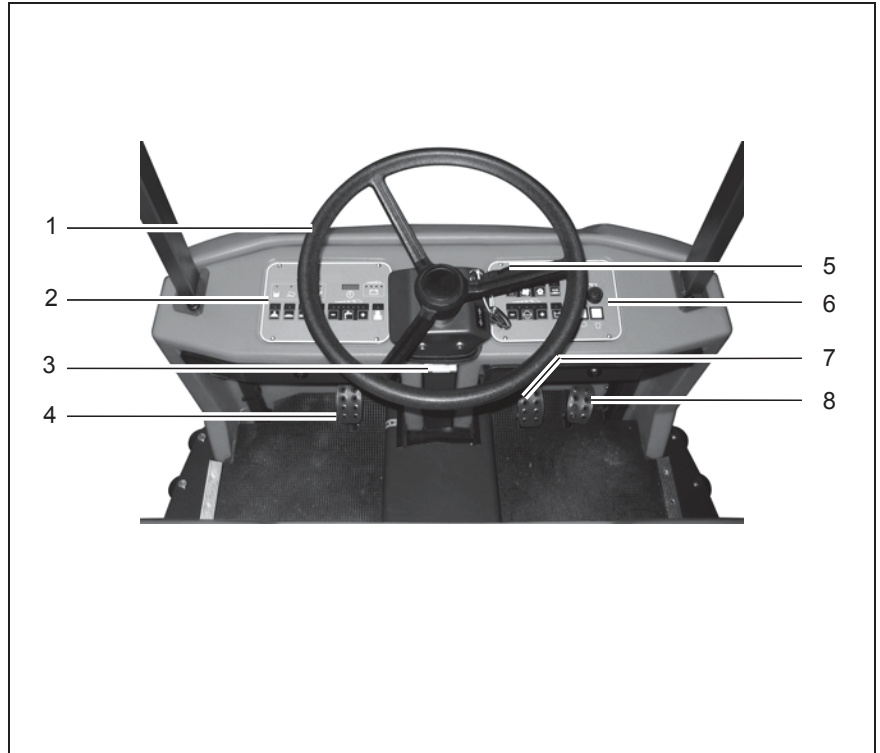
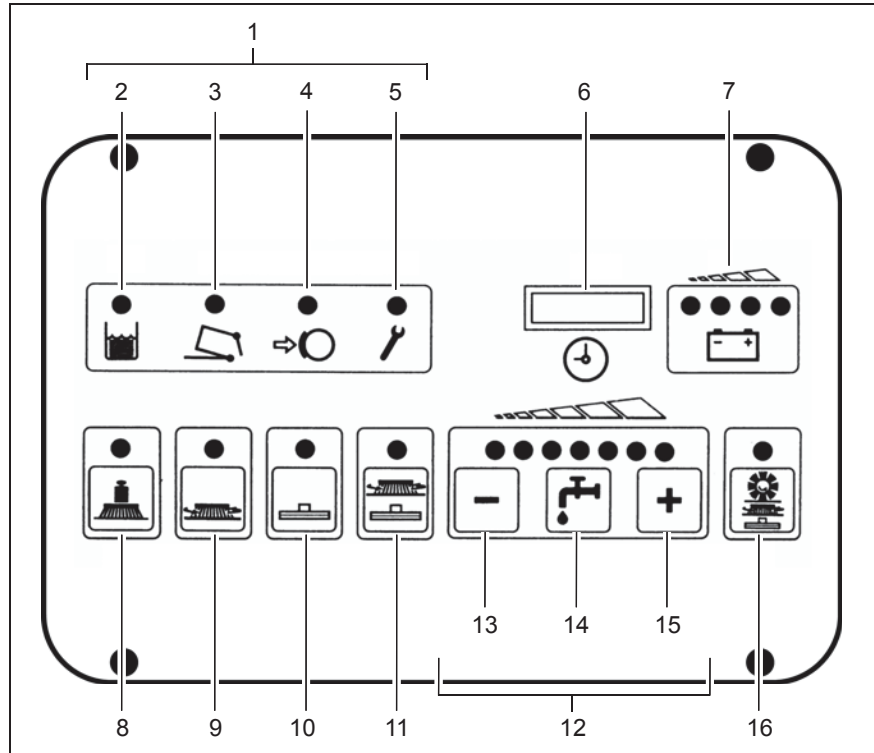

Fig. 21
Fig. 22
(Fig. 21/1)
(Fig. 21/2)
(Fig. 21/3)
(Fig. 21/4)
- When the parking brake is applied, the corresponding control lamp on the operating panel (Fig. 22/4) lights up red.
Before getting out of the vehicle apply the parking brake, set the driving direction switch (Fig. 21/5) to its neutral position and switch the key switch to off.
(Fig. 21/5)
Right-hand operating panel (Fig. 21/6)
Service brake (Fig. 21/7)
Accelerator to drive forwards and backwards (Fig. 21/8)
- Before actuating the accelerator, use the driving direction switch (Fig. 21/5) to set the direction of travel: forwards or reverse.
- To stop securely, apply the service brake (Fig. 21/7).
An acoustic warning signal (buzzer) is issued should the drive motor overload. At the same time, the red alarm lamp (Fig. 21/5) lights up in the left-hand operating panel (Fig. 22/2) and the driving speed is reduced by approx. 50%. In addition, an error code appears in the service indicator (Fig. 22/6).
3.2.2 Left-hand operating panel (Fig. 22)
(Fig. 22/1) The indicator field enables the scrubber-drier to provide feedback on the operating status of the vehicle. This only relates to operating states which cannot be switched on and off via the operating panel: recovery tank full, dirt hopper for pre-sweep/vacuum unit full, parking brake applied and error message.
(Fig. 22/2) The yellow control lamp lights up when the recovery tank has reached its maximum fill level. Also, a "beep" signal is issued every 15 seconds. In this case, a float switch switches the suction turbine off and the squeegee is raised.
(Fig. 22/3) The control lamp lights up red when the dirt hopper is not properly inserted (engaged) or the front flap is not properly closed.
(Fig. 22/4) The control lamp lights up red when the parking brake has been actuated via the pedal to the left of the steering column. If the traction drive is switched on, an acoustic signal is also issued.
(Fig. 22/5)
At the same time, a four-digit code appears in the display of the service indicator (Fig. 22/6). This error code infers which fault has occurred (refer to Section 3.5.1). At the same time, the control lamps flash and an acoustic signal is issued.
(Fig. 22/6) The four-digit LED serves to display the operating hours.
(Fig. 22/6) The four-digit LED serves for a more accurate determination of function faults. If a
(Fig. 22/7) After switching on the key
(Fig. 22/8) This button is used to increase the brush pressure. This may be necessary when the area to be cleaned is extremely dirty.
(Fig. 22/9) This button serves to switch the brushes and fresh water supply on and off with simultaneous, respective lowering and
(Fig. 22/10) This button serves to switch the suction turbine on and off with simultaneous lowering and
(Fig. 22/11) After pressing
(Fig. 22/12) The
(Fig. 22/13) The button serves to reduce the fresh water quantity supplied to the brushes. The fresh water quantity can be reduced in seven stages (see above). The stage selected remains programmed, even if the vehicle is switched off in the meantime.
(Fig. 22/14) This button serves to switch the fresh water supply on and off when the brush head is lowered or when using the spray/vacuum tool. The water quantity previously set remains unchanged.